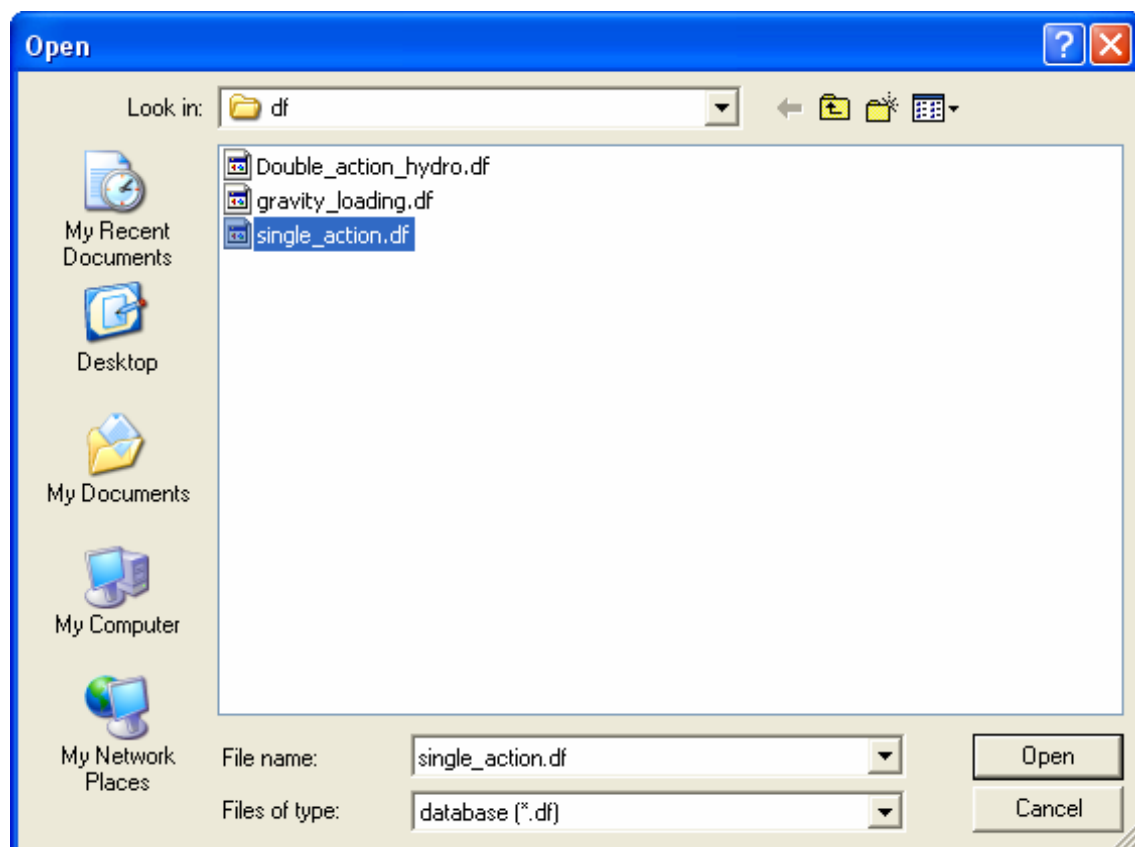

Figure 1.1 Open file dialog box
1. From the menu bar, select **File→Open...** to open the OPEN FILE dialog box, as illustrated in Figure 1.1.